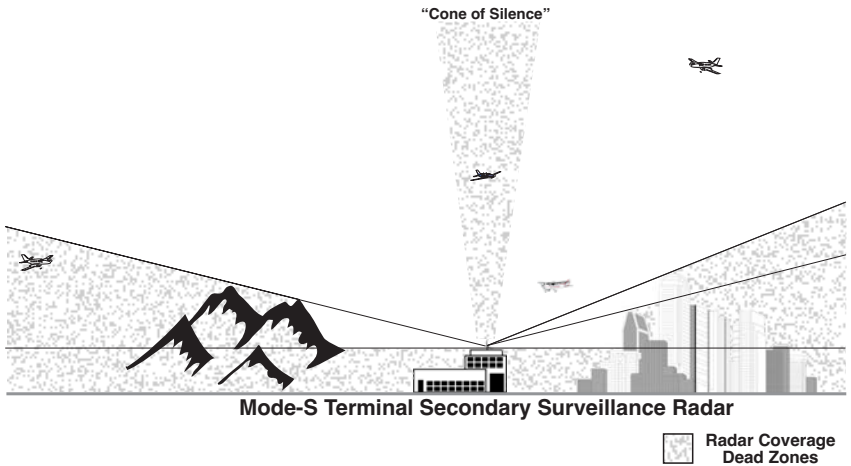

Figure 3-13 - Obstructions To TIS Coverage
5. Your aircraft is below radar coverage. With no obstructions and flat terrain, the coverage floor is about 2,000-3,000 feet at 60 miles and 4,000-6,000 feet at 100 miles. Terrain and obstacles can substantially decrease coverage range or make coverage asymmetrical about the radar site. See Figure 3-13.